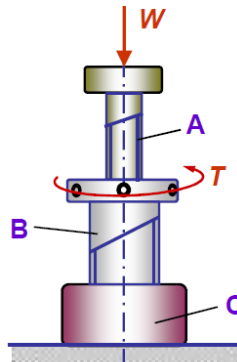

Figure 3: Differential screw jack
Deduce an expression to calculate the Torque(T) requirement to rising and lowering the differential screw jack shown in Figure 3.